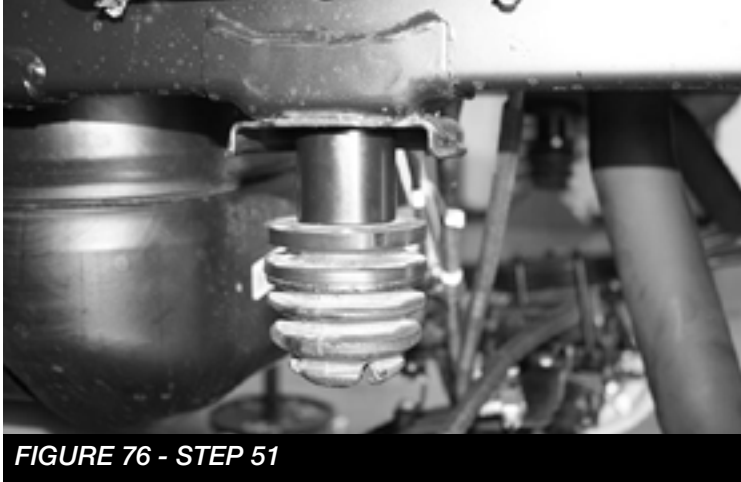

FIGURE 76 - STEP 51
51. Remove the factory bumpstop from the frame and discard the bolt. Install FT20870 (Bumpstop spacer) in between the factory bumpstop and the frame using the supplied M10 x 70mm socket head bolt. Torque to 53 ft-lbs **SEE FIGURE 76**